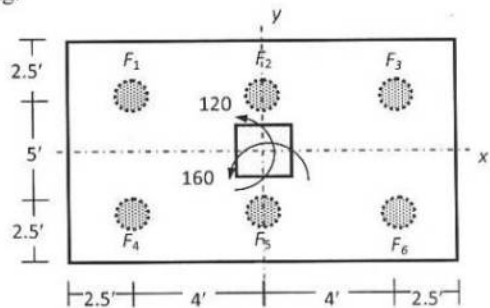

Fig. 4
7. A 24"x24" column carrying working loads of $DL = 200$ k, and $LL = 150$ k with biaxial moments (due to LL) of $M_x = 120$ k-ft and $M_y = 160$ k-ft is shown in Fig 4. Design the pile foundation by WSD method and show the reinforcement in neat sketch [Given: allowable bearing capacity of soil = 2 ksf, $f'_c = 3$ ksi, $f_y = 50$ ksi].